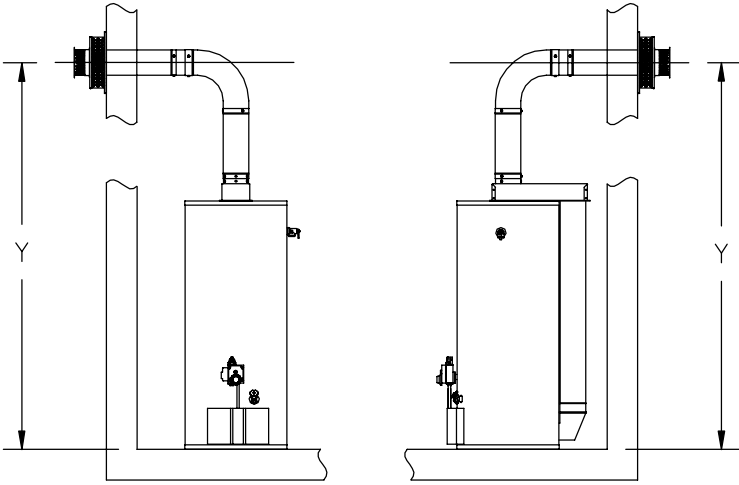

Figure 1
1. Measure the vertical height "Y" required in your installation. Reference the height in the applicable Table A under the column heading "Vertical Height "Y" (See Fig. 1)."